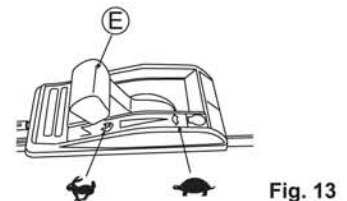

Fig. 13
- Confirm that there is no person behind you when pulling Starter knob (V).
- Securely grab Starter knob (V) when you pull it.
- Return Starter knob (V) slowly.
5. Warm up the machine before use. After the engine has warmed up, start mowing by setting Throttle lever (E) to "II". (See Fig. 13)